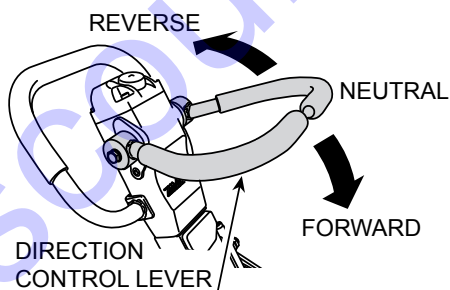

Figure 21. Direction Control Lever
2. The direction control lever allows the machine to be moved either backward or forward (Figure 21). The direction control lever is normally in the forward position and the machine automatically moves forward. When pulled backward, the machine moves backward.